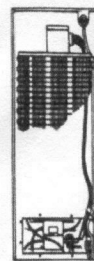

Figure 11
22. Make sure the water supply line that goes to the icemaker is straight with no kinks and is reattached to the back of the cabinet. (See figure 11)